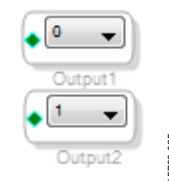

Figure 23. Output Blocks
- ii. Repeat the previous step to add another output (see Figure 23).